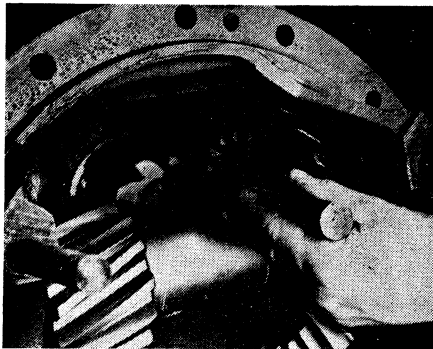

Fig. 57 If pinion cage is not free, tap it loose, using soft drift on inner face of pinion or use puller screws in holes provided
7. Remove pinion cage nuts and lift out cage assembly. If cage is not free, tap it loose, Fig. 57, using a soft drift on the inner face of the pinion or use puller screws in holes provided.